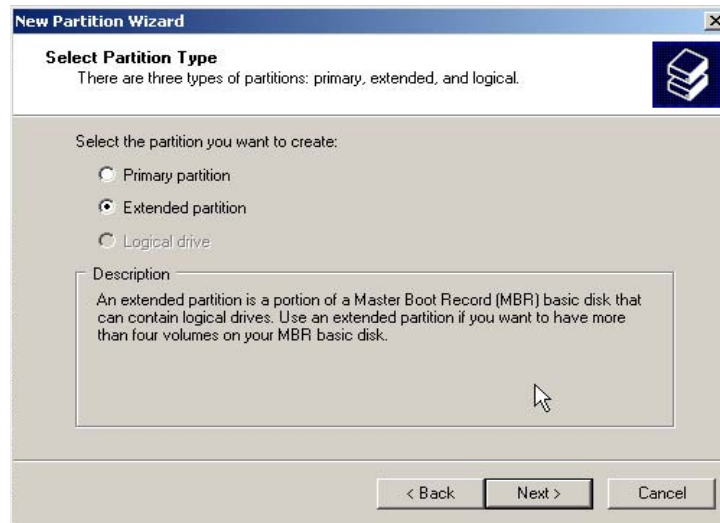

Figure 17
10. Select **Extended partition** and click **Next**. (See Figure 17)